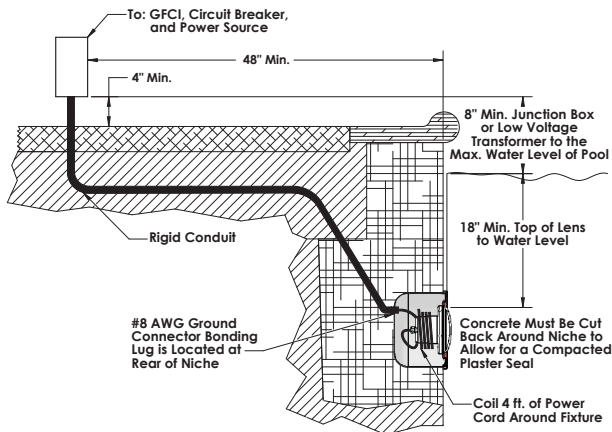

Figure 1.
- A junction box or low voltage transformer is located at least 8 inches above the maximum pool water level and at least 48 inches from the pool edge; reference Figure 1.
- Proper wet niche installation with the top edge of the underwater light's lens at least 18 inches below the surface of the water in the pool and not more than 20" in Canada; reference Figure 1.
- Proper electrical wet niche bonding and grounding using the #8 AWG ground connector at the rear of the niche; reference Figure 1.
1. Feed the fixture cord through the conduit to the junction box. Be sure to leave at least four (4) feet of cord at base of the fixture to coil around the light to ensure ease of servicing once the pool is filled; reference Figure 1.
2. At the junction box, cut the cord. Be sure to leave at least six (6) inches of cord for making connections.
3. Carefully strip the outer cord jacket to expose six (6) inches of the underlying three insulated wires.
4. Connect these three (3) wires to their corresponding junction box circuit wires and secure the junction box cover in place.